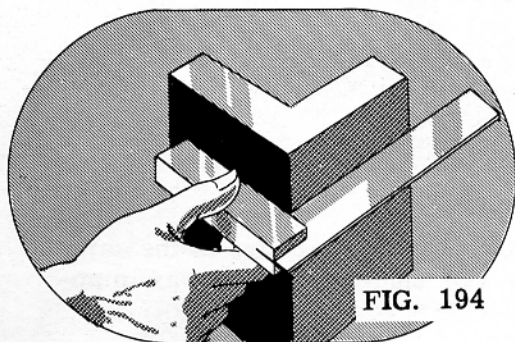

FIG. 194
4. Test the plate for squareness with a solid square (Fig. 194).